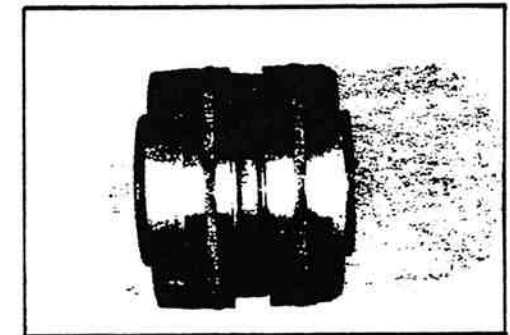

Figure 11-82. Valve Sleeve.
32. Locate the timing mark on the valve sleeve (5b): a faint, punched mark on the chamfered edge of the valve sleeve (figure 11-82).